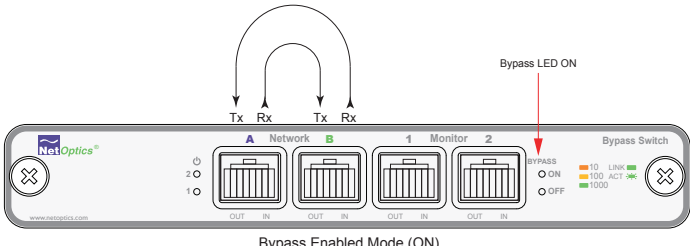

Figure 3: Bypass Enabled
When the bypass switch is in Bypass Enabled (ON) mode, the switch circuitry re-directs network traffic around the in-line appliance. In Bypass Enabled mode Network Ports A and B are connected (see Figure 3).